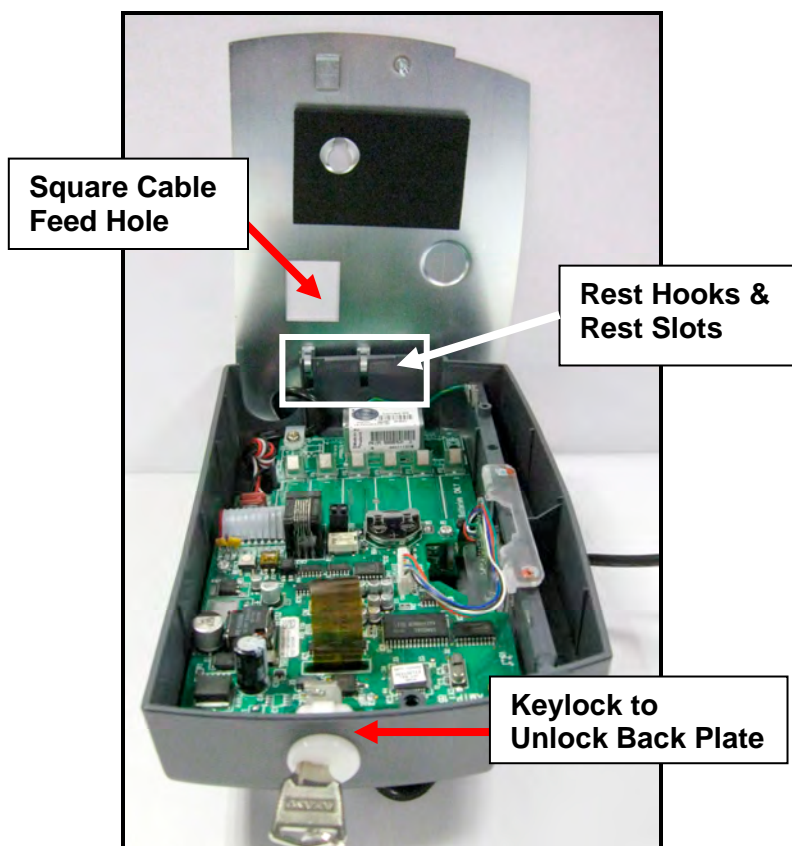

Figure 4: MTX-15 Terminal on Rest Hooks
- Step 5.** If using the square Cable Feed hole in the Backing Plate for power or communications, mark this location (see **Figure 4**).
- Note:** The Rest Slots on the terminal slip over the Rest Hooks (see **Figure 4**) on the Back Plate to hold the terminal in the open position for wiring and configuration, such as connecting to the signal relay to ring a bell (see **Figure 8**).